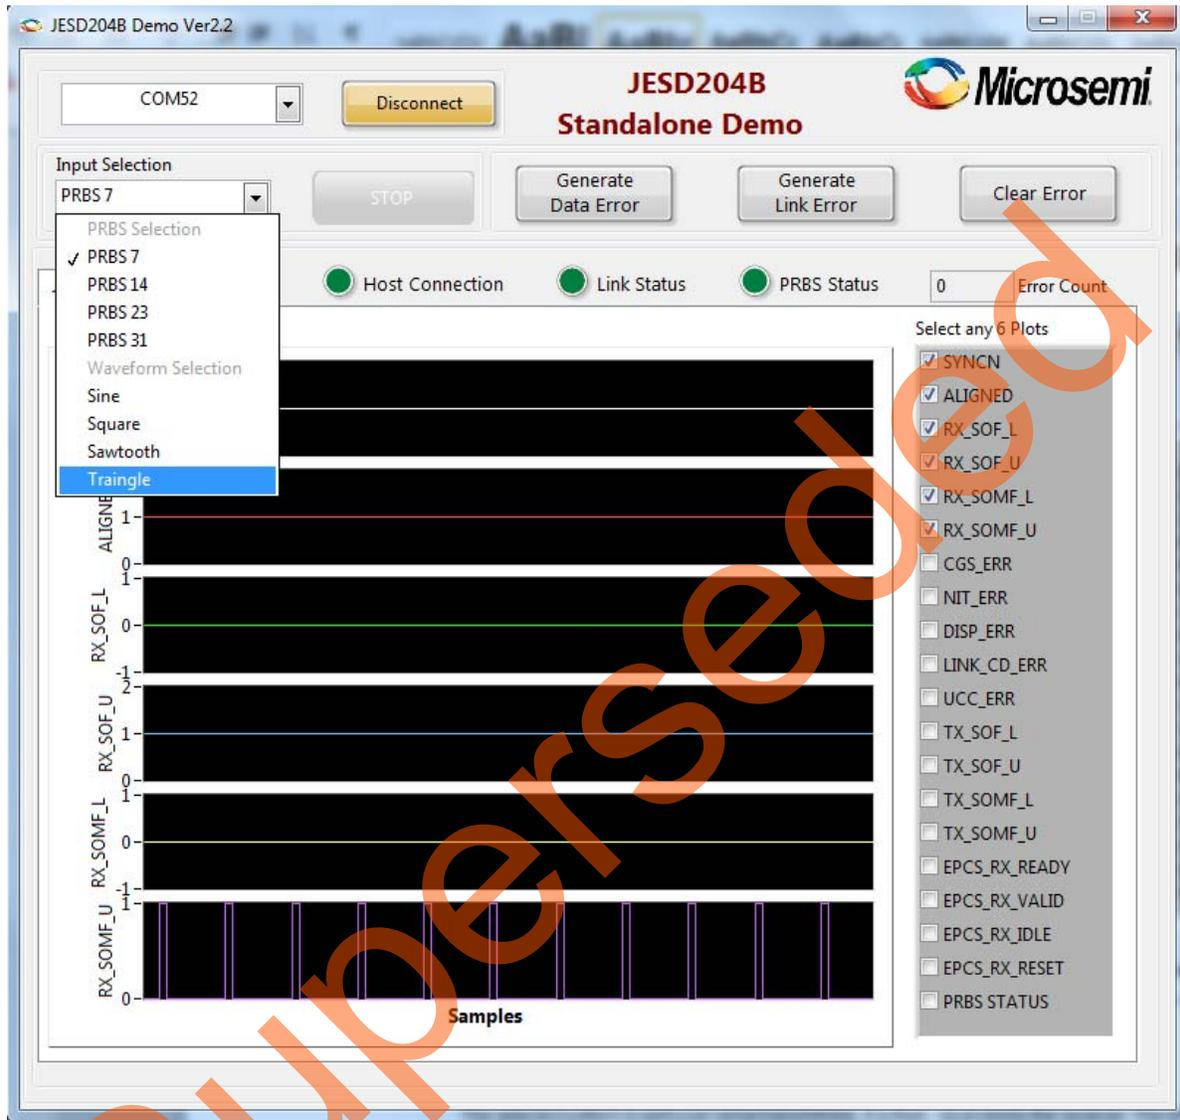

Figure 17 • Waveform Pattern Selection
10. Select **Triangle** as Input selection to change the pattern and view the status link, as shown in Figure 17.